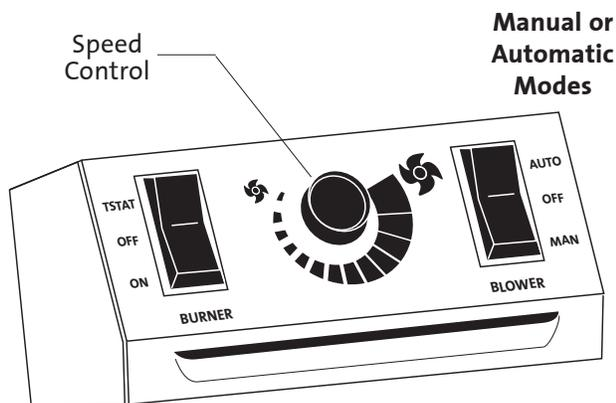

Figure 36. Blower Controls
- 8. Reinstall the Logset.** Refer to the Owner's Manual if necessary. **BE CERTAIN THAT NO EMBER STONES ARE BLOCKING THE PILOT ASSEMBLY OPENING. Refer to fig. 36.**